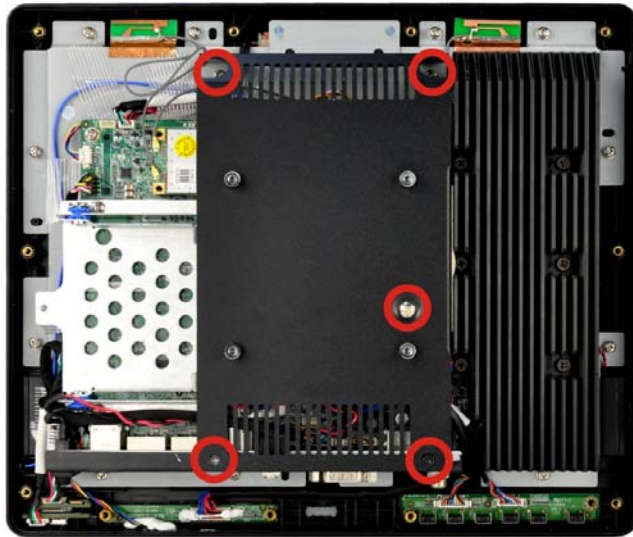

Figure 6-2: Internal Cover Retention Screws
Step 1: Remove the five (5) retention screws securing the internal cover to the chassis (**Figure 6-2**).